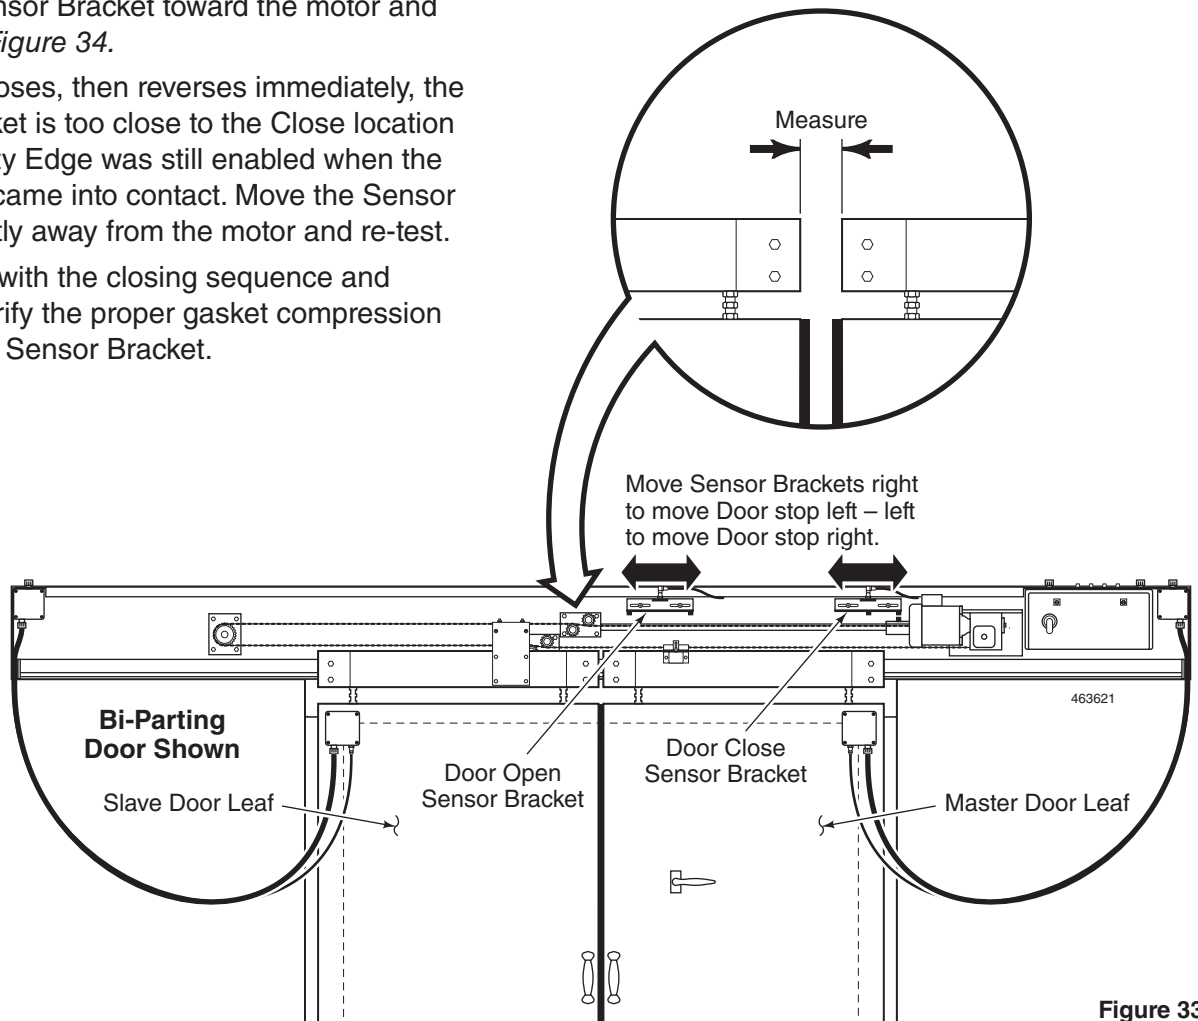

Figure 33
1. Move the Sensor Bracket fully away from the motor. Close the Door. The Door will stop prior to contact of the leading edge gaskets. Measure the distance between the Door Hanger Channels. See *Figure 33*.